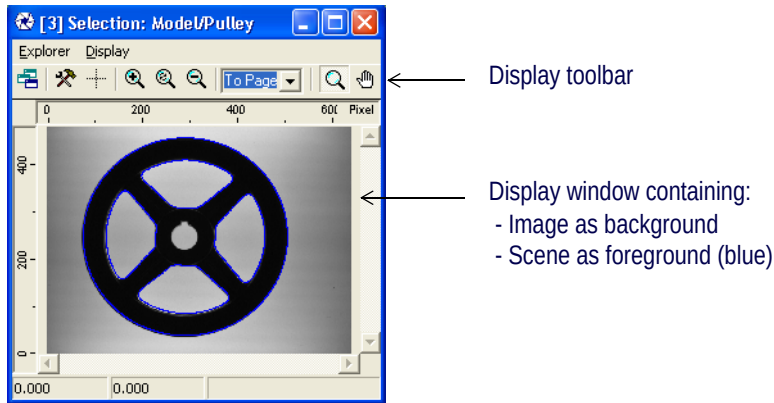

Figure 135 Display Scene and Image from the Explorer Database
- If you select **Append To** you must specify an already opened Image or Scene to be used as foreground. Figure 135 shows a display window with the Contour Scene as foreground and the Image as background.